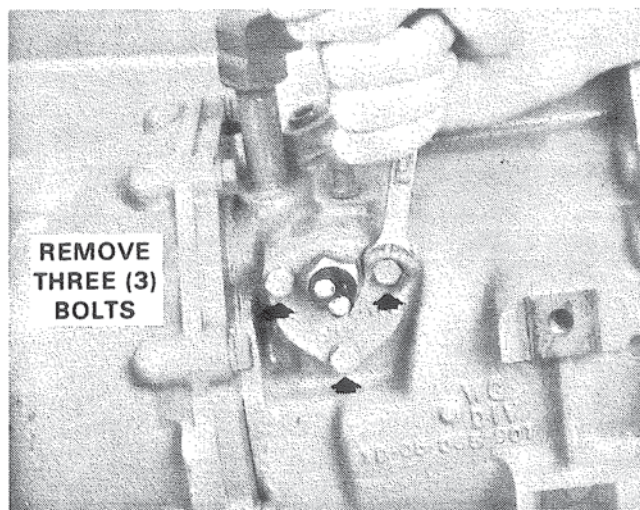

Figure 2. Removing Valve Cover.
1. Remove three (3) hex head bolts, lockwashers, valve cover and valve cover gasket. Figure 2.